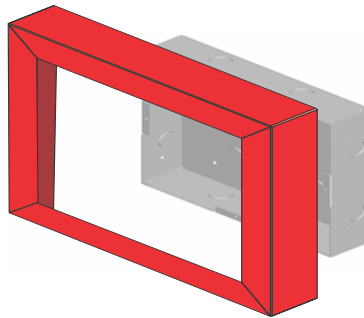

Figure 6 Trim Ring Installation
5. Place the trim ring over the backbox as shown in Figure 6.